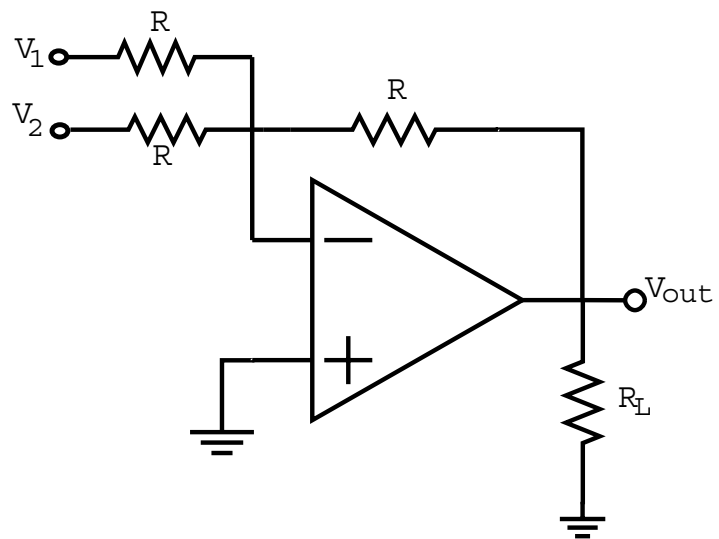

Figure 8: Operational amplifier circuit from lecture
1. Construct the circuit in (Figure 8) and solve theoretically. For R_L , choose a value greater than $1\text{K}\Omega$. (Why this lower limit?)